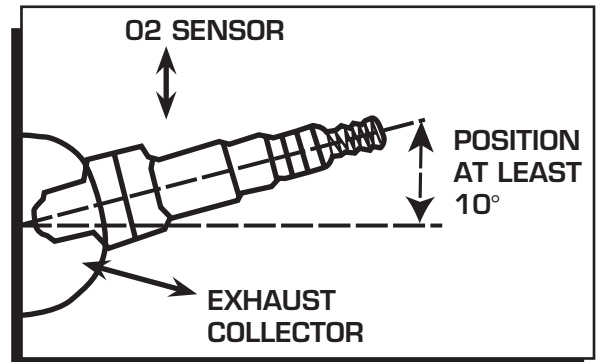

Figure 23 WBO2 Sensor Location.
- b. The WBO2 sensor should be at least 10° above horizontal to allow condensation runoff. Without this angle the sensor is significantly more likely to sustain water damage (Figure 23).